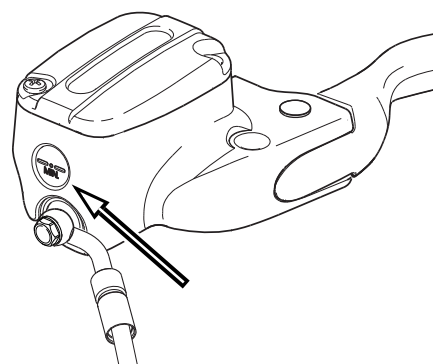

Figure 1-17. Clutch Reservoir Sight Glass
2. See Figure 1-17. View reservoir sight glass and verify fluid presence. Sight glass should appear dark if fluid is present.